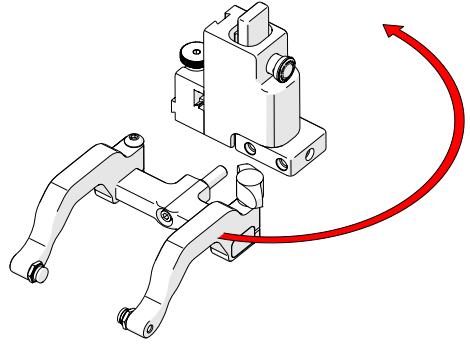

Fig. 81 - Orient to opposite side
2. Position the yoke and arms to the opposite side of the probe holder (Fig. 81).